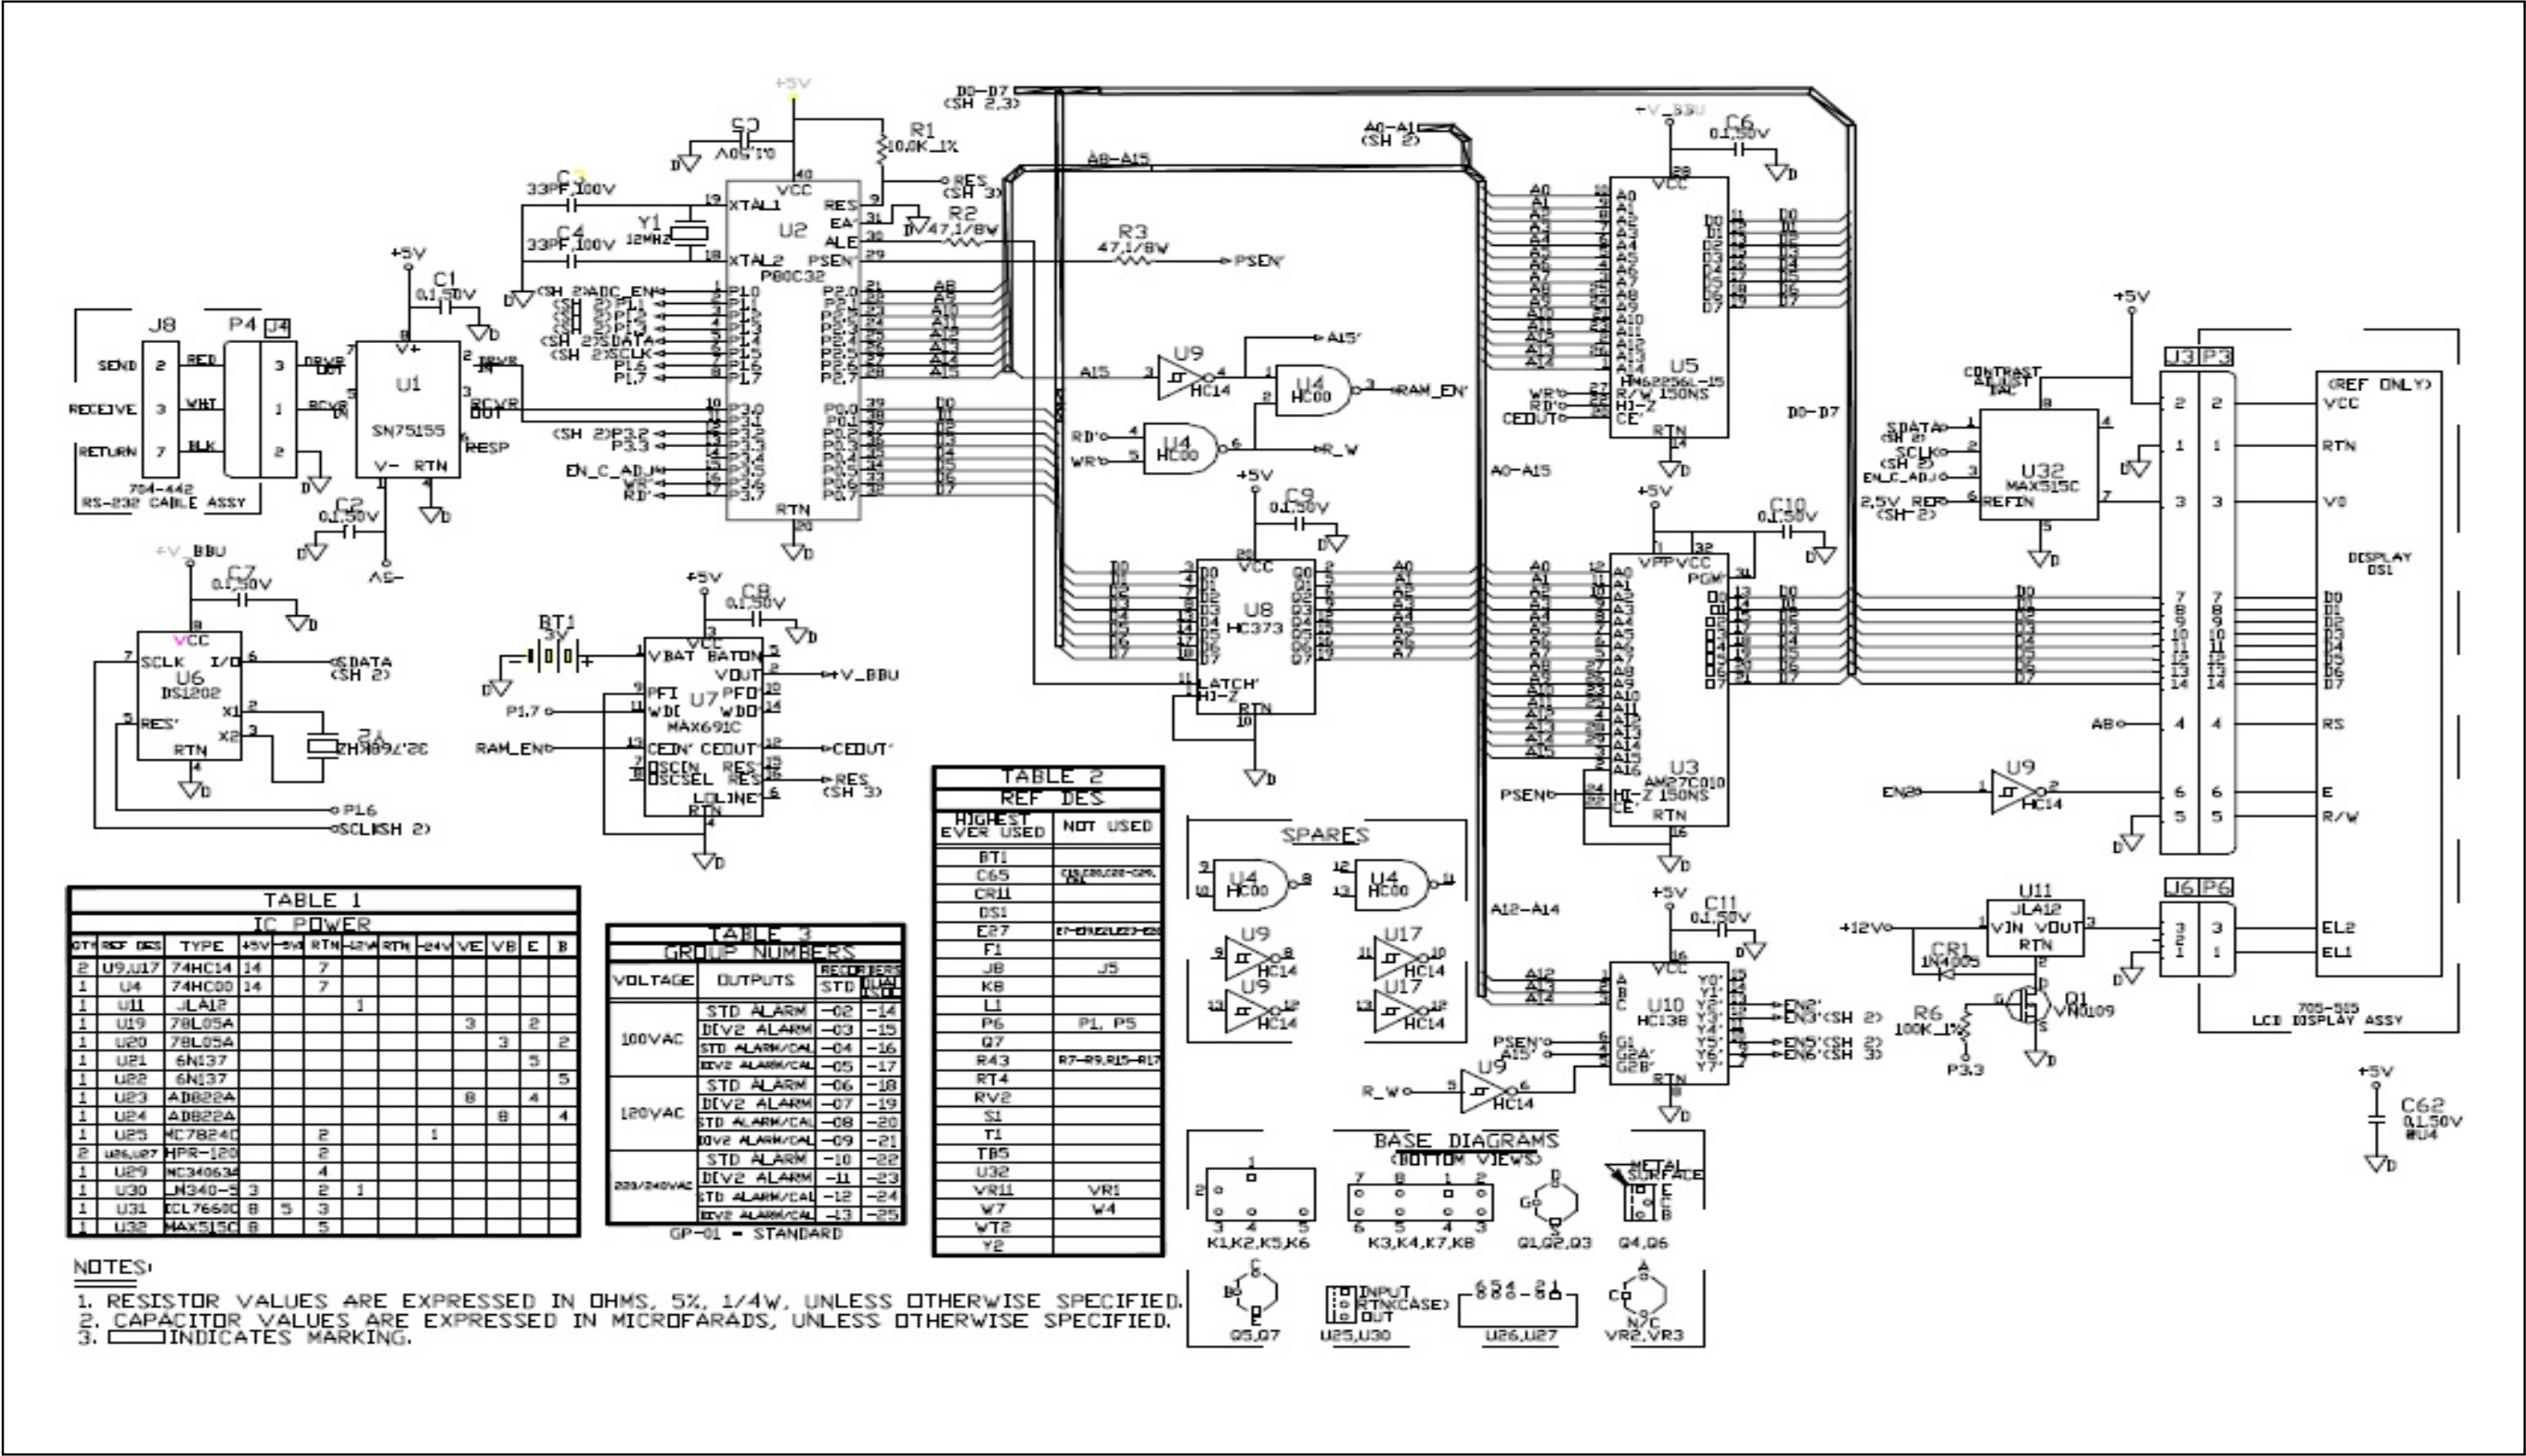

Figure 20: Fiberglass Weatherproof Outline (ref. dwg #701-030)
- *Figure 20:* Fiberglass Weatherproof Outline